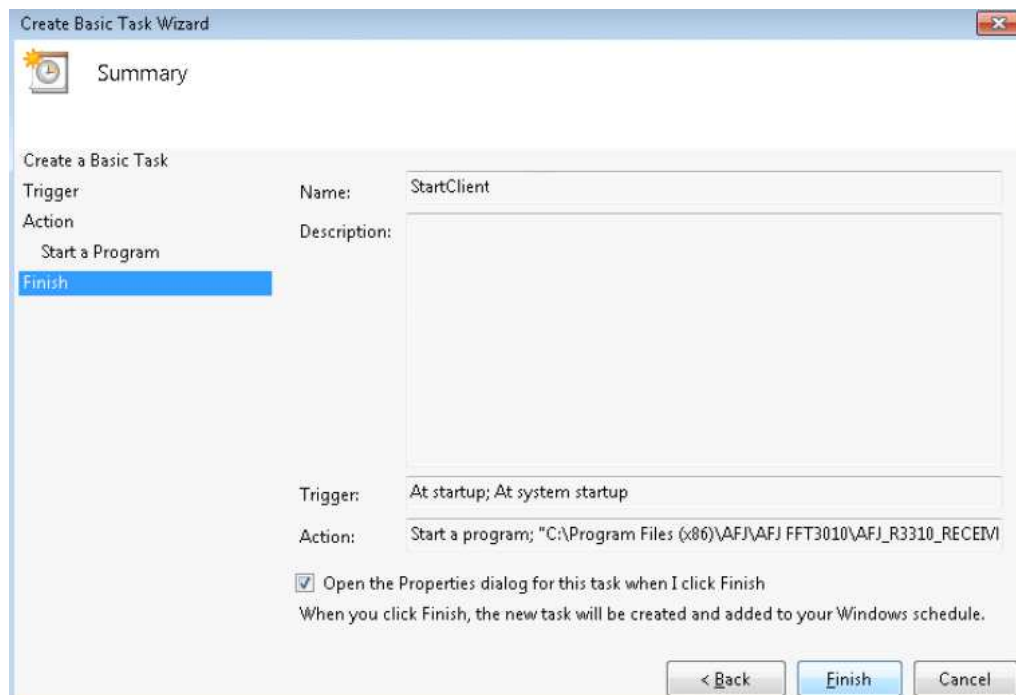

Fig. C.42: Finish window
STEP 9 – In *Create Basic Task Wizard* window please select *Finish* panel, verify the *Name*, *Trigger* and *Action* fields, select *Open the Properties dialog for this task when I click Finish* option and then click *Finish* (Fig. C.42).